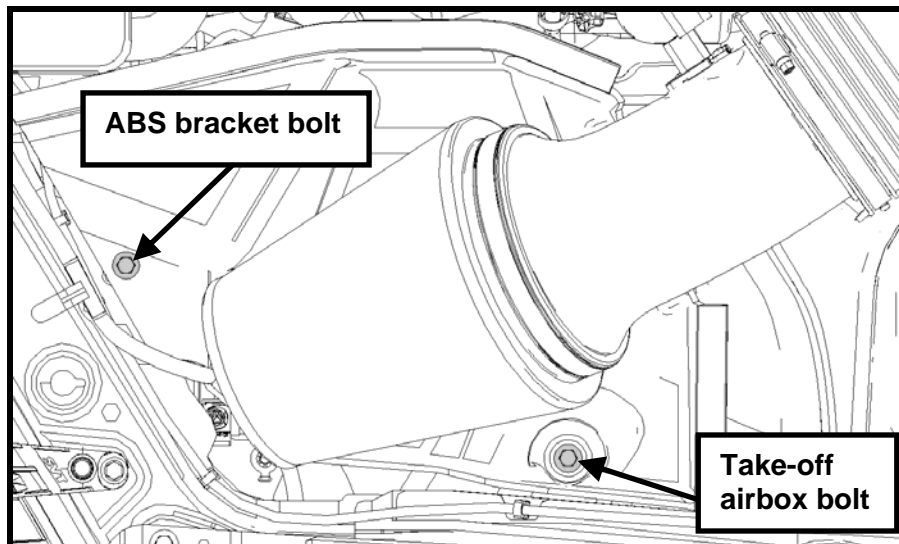

Fig. 35
STEP 19: Lower the complete airbox assembly into the vehicle using the two pegs as guides into the rubber grommets. Use the take-off airbox bolt and newly supplied ABS bracket bolt (N808920) to secure the airbox in the vehicle. Torque the M6 bolt to 10 Nm, (88 lb in) and the M8 bolt to 25 Nm (221 lb in) (See Fig. 35).